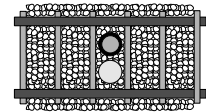
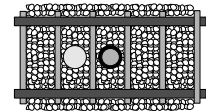
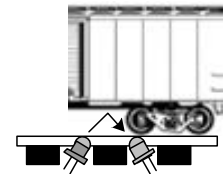

Figure 7a
Figure 7b
Figure 7c
The Optical Detector (hereafter referred to as the OD-1 or OD-1-IR) provides detection using an Infrared (IR) emitter and detector. Detection is achieved when the IR beam from the emitter reflects off the underside of the train back down to the detector. **Despite the use of infrared components you could still encounter false triggering from overhead lighting. This is usually eliminated with angled sensor mounting (Figure 7c) and/or proper sensor sensitivity adjustment (page 3). This version of the OD-1 must be powered from either a 7-9V AC or 9-12V DC power source. Do NOT exceed these limits!** There are three outputs: two red (covered) outputs and one green output (uncovered). One red output and the green output can drive different types of LEDs. The other red output is used for driving higher power devices such as lamps or relays.
The IR components should be mounted between the rails. Drill two 11/64" holes, approximately 1/4" apart, through the ballast, roadbed, and sub-roadbed. For the smaller scales this drilling may end up hitting the ties. Take your time so you don't mangle them! Figure 7a illustrates the suggested placement of the IR components between the rails; you may also locate them a tie apart from each other (Figure 7b). Insert the leads of one IR emitter (white and black wires) into one of the holes (it doesn't matter which one!) from the top of your layout. Repeat for the IR detector (blue and black wires). The tops of the components should sit no higher than the top of your ballast for optimal IR performance; in some cases (e.g. false triggering) it may be necessary to locate the components a little below the ballast line. You can extend the leads with similar (or larger) wire. We recommend soldering and insulating these connections. We also recommend using terminal blocks/strips since you'll have multiple DC and GND connections to make. Once you have wired the IR components and verified their operation you may wish to put a dab of white glue or silicone caulk where the wires exit the holes underneath the layout. This will help to hold the components in place; make sure you don't get any substance (e.g. ballast or glue) on the top surface of the IR components as this may prevent them from operating properly. **Figure 7c is a variation of Figure 7b. In this case the IR components are mounted at an angle to each other. The benefit of this method is reduced false triggering from overhead light and increased detection reliability in smaller scales or irregular bottoms on rolling stock.**